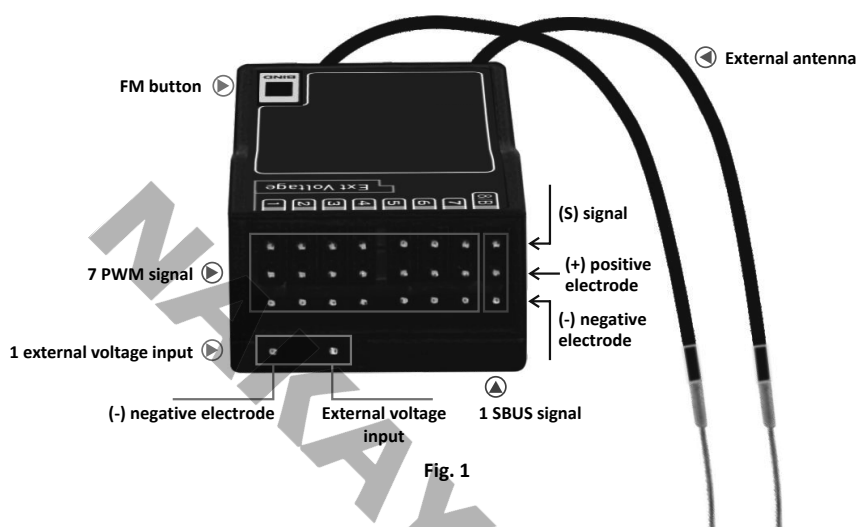

Fig. 1
2. Press the FM button on the receiver (Fig. 1). The indicator light will flash quickly and the receiver will enter the frequency control mode.